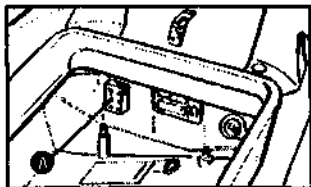

Fig. 1
1. Five fuses «A» in the helmet compartment (figure 1) protecting the electrical socket.